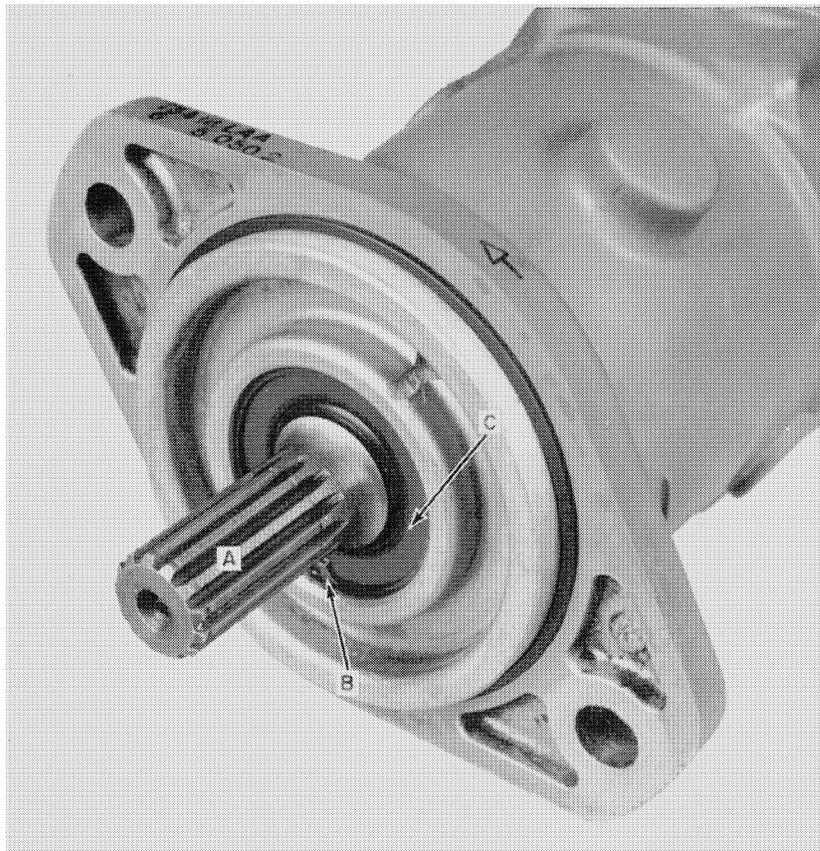

FIGURE 12
9. To remove the drive shaft, A, Figure 12, first remove the retaining ring, B.
4. Lubricate inside (ID) of oil seal and install as shown at C, Figure 12. Install retaining ring, B.